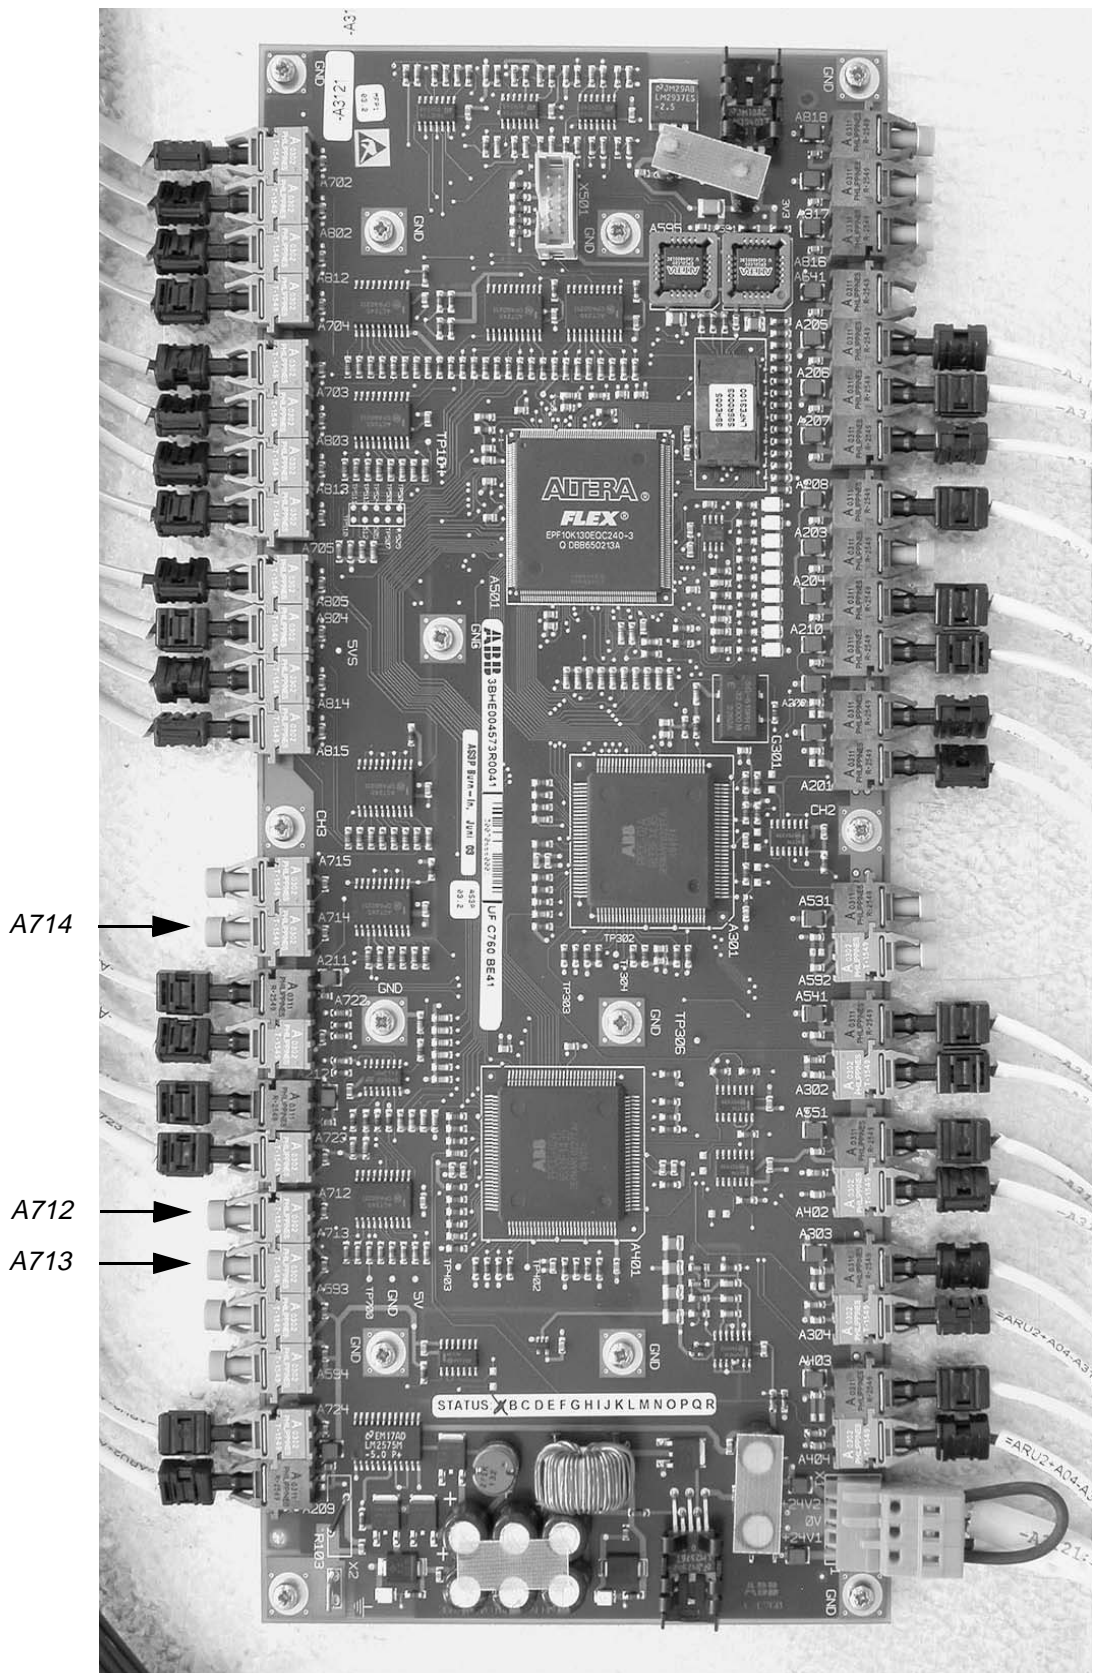

Figure 2-3 INT Board
- Inside ARU: connector A714 (see *Figure 2-3*)
- Inside INU: connector A712 or A713 (see *Figure 2-3*)